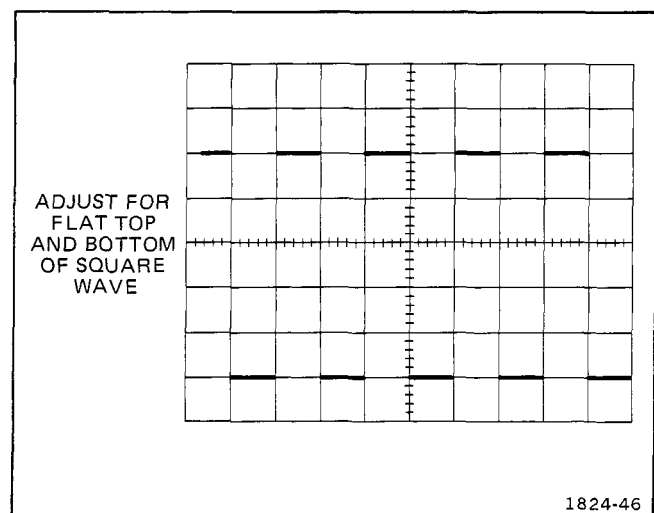

Fig. 5-3. Typical display of correct adjustment of C1 or C11.
e. ADJUST—C1 (see Fig. 7-4) for flat top on displayed square-wave. See Fig. 5-3 for typical display.